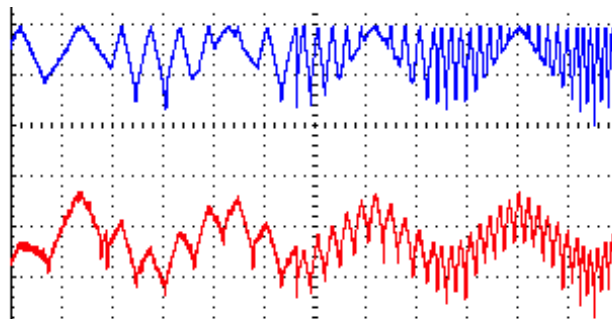

Figure 9c: OR jack vs. adding ENV outputs
- The OR jack will output the highest voltage value from either side's ENV jack at any given moment. One way to use this is to think of the OR jack as a mix out, and use the Scale knobs as level knobs and the Bi-Polar buttons to bring down the relative level of a channel (kind of like a mute button). See Figure 9c